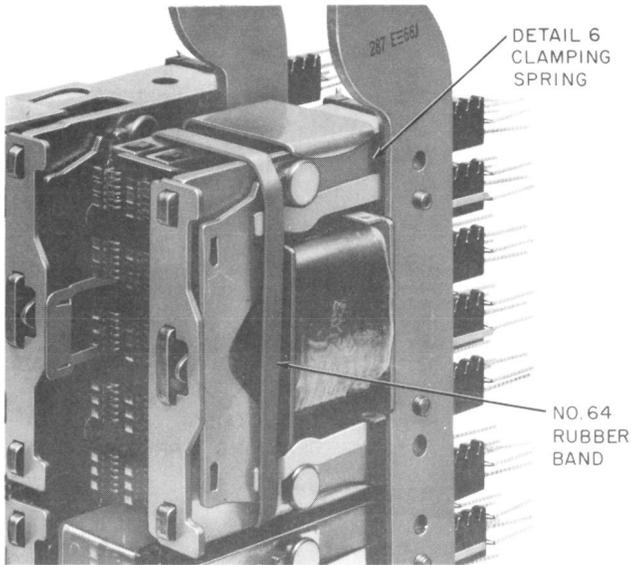

Fig. 21—►Proper Position of Rubber Band Across U-Shaped Portion of Armature Spring◄
3.58 Slip a #64 rubber band over the unit and the U-shaped portion of the armature spring close to the front spoolhead as shown in Fig. 21. This will prevent the armature spring from falling off when the unit is removed from its mounting bracket.
3.74 Slip a #64 rubber band over the unit and the U-shaped portion of the armature spring close to the front spoolhead as shown in Fig. 21. This will prevent the armature spring from falling off when the new unit is removed from its mounting bracket.